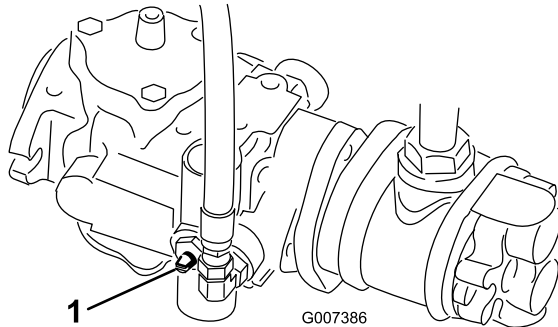

Figure 35
1. Locate the bypass valve on the pump and rotate it so that the slot is vertical (Figure 35).
2. Before starting the engine, close the bypass valve by rotating it so that the slot is horizontal (Figure 35). Do not start the engine when the valve is open.